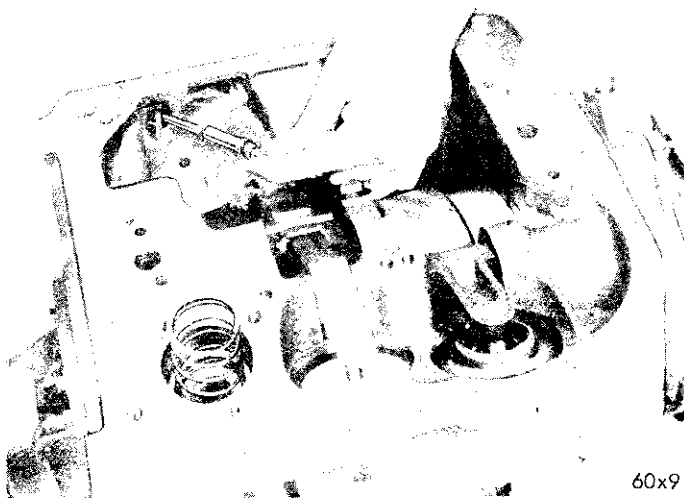

Fig. 91—Installing Cable Adapter
(1) Inspect the mating surfaces of the valve body assembly for cleanliness. Place the manual lever in the reverse position (all the way in).
(2) Using a suitable guide, such as a piece of welding rod, inserted through the push button cable opening in the transmission case, slide the cable adapter over the end of the guide, as shown in Figure 91, with the adapter attaching stud facing toward the bottom of the transmission case.